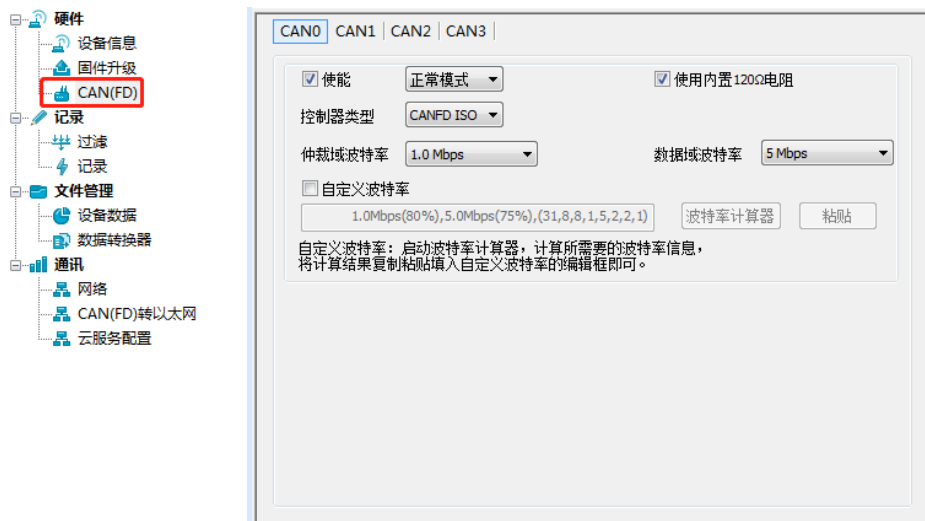

Figure 5.3 CAN (FD) channel configuration interface
In the left menu bar of the configuration tool, click "CAN (FD)" to display the CAN (FD) channel configuration interface, as shown in Figure 5.3. After clicking the corresponding channel, configure the baud rate parameters and terminal resistance control of the channel.